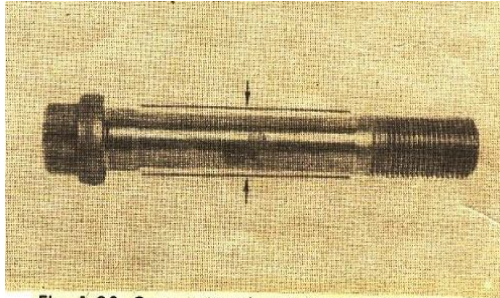

Fig. 1-28. Connecting the rod bolt dimensions
- a. If the connecting rod bolts have been tightened excessively, they may be permanently stretched, if so they are to be discarded. Discard the bolts if the smallest diameter is less than listed in the specifications. Fig. 1-28.